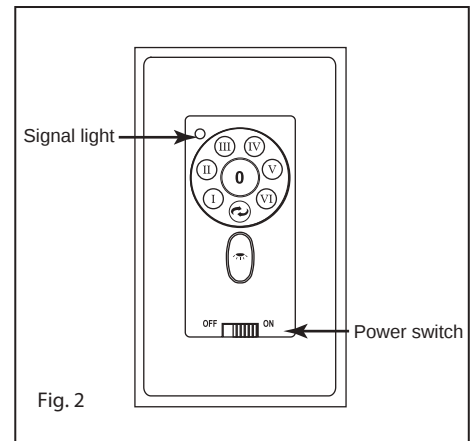

Fig. 2
- 3 Loosen the two security set screws and remove the downrod pin and retaining clip from the coupling on top of the motor assembly. (Fig. 2)
- 3 Raise the glass shade against the LED Assembly and turn clockwise until snug, DO NOT OVERTIGHTEN. Restore power and your light kit is ready for operation.(Fig.2)
- 4 Install the wall transmitter on the existing wall outlet box using the screws provided. Attached the wall plate with the mounting screws to finish the installation. (Fig. 2)
- 7 Signal light (Fig. 2)